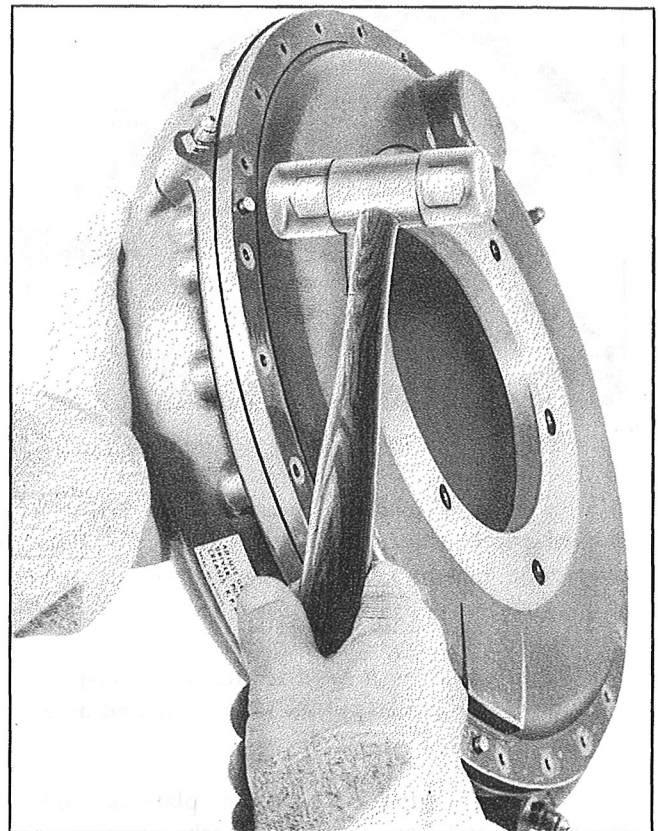

Figure 132—Removal of Regulator Cover
*Step 12.*—Turn the regulator over and tap the locating dowels in the housing with a soft-faced mallet as indicated in Figure 132 in order to loosen the cover from the housing. Lay the regulator on a bench with the cover side up. Lift the cover, tilting during removal to avoid interference with the oil pump drive gear.